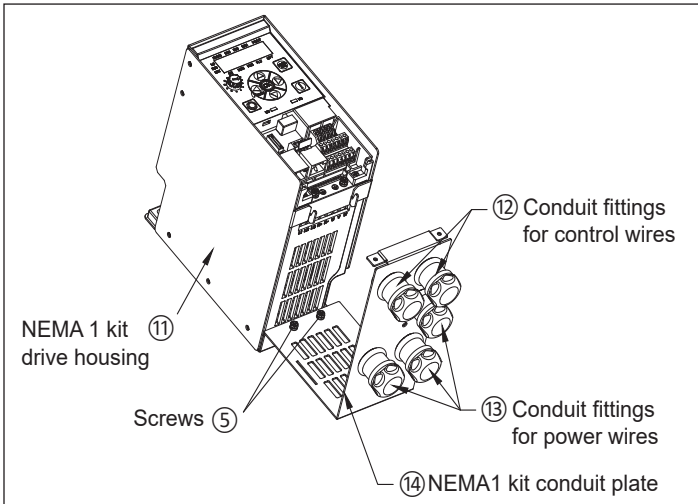

Figure 5. Mounting the NEMA 1 conduit plate.
Mount the conduit fittings ⑫ ⑬ (prepared by customer) on NEMA 1 kit conduit plate ⑭, then mount the NEMA 1 kit conduit plate to the drive housing ⑪ with two screws ⑤ (see Figure 5).